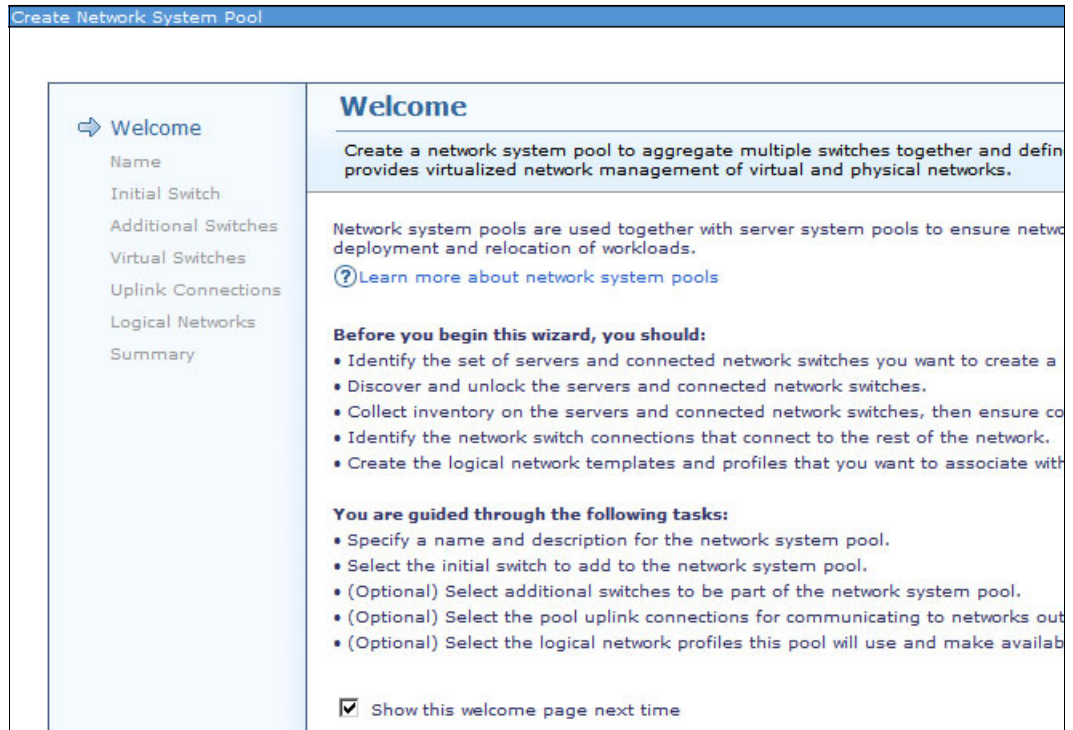

Figure 9-79 Create Network System Pool: Welcome
3. The Create Network System Pool wizard opens, as shown in Figure 9-79 on page 360. Click **Next**.